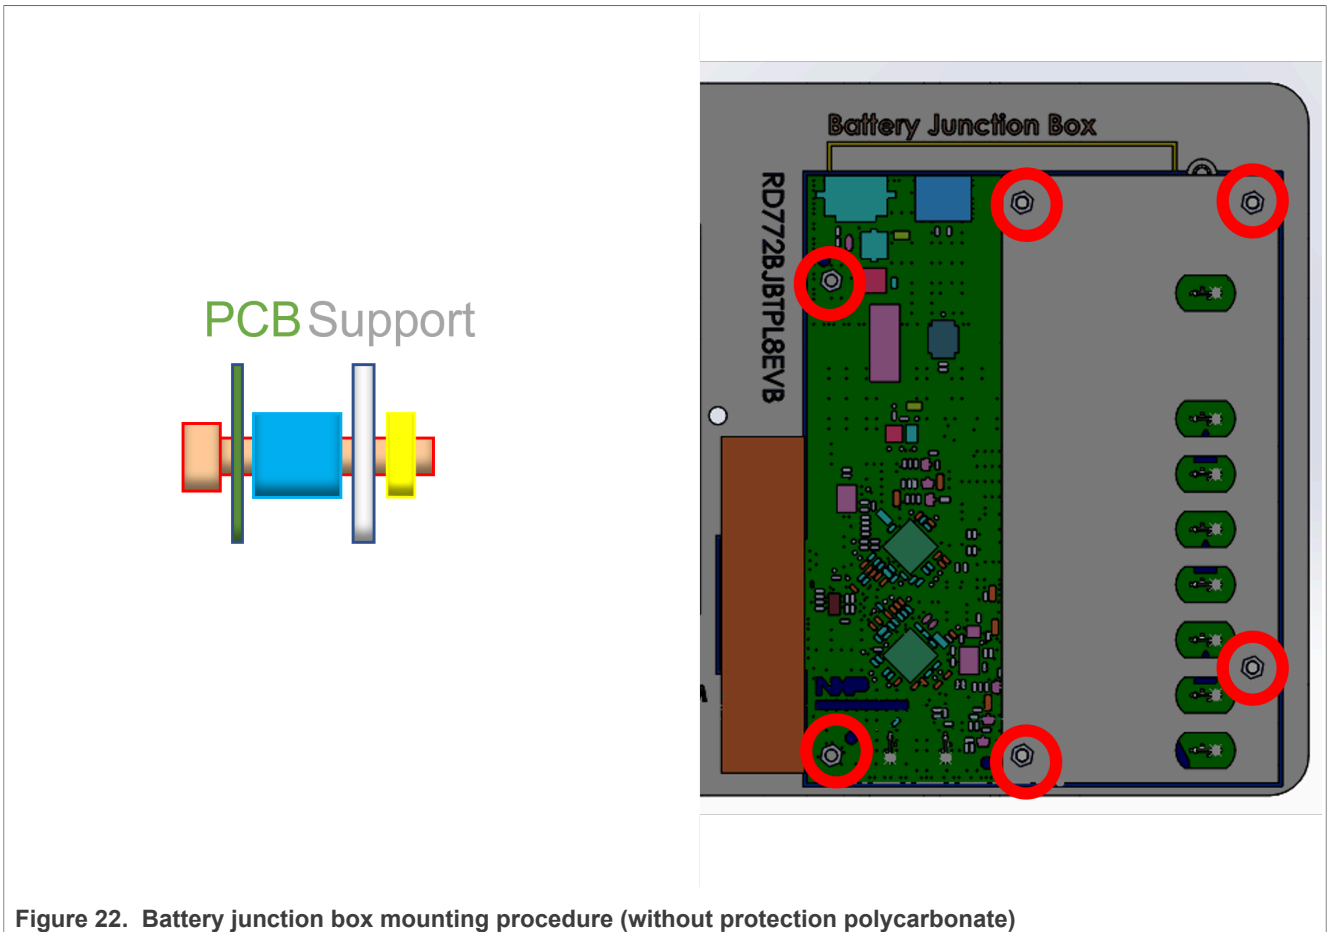

Figure 22. Battery junction box mounting procedure (without protection polycarbonate)
1. Mount the BJB to the top plate using six screws (280-78012), six standoffs (280-78015) and six nuts (280-76566) according to Figure 22.